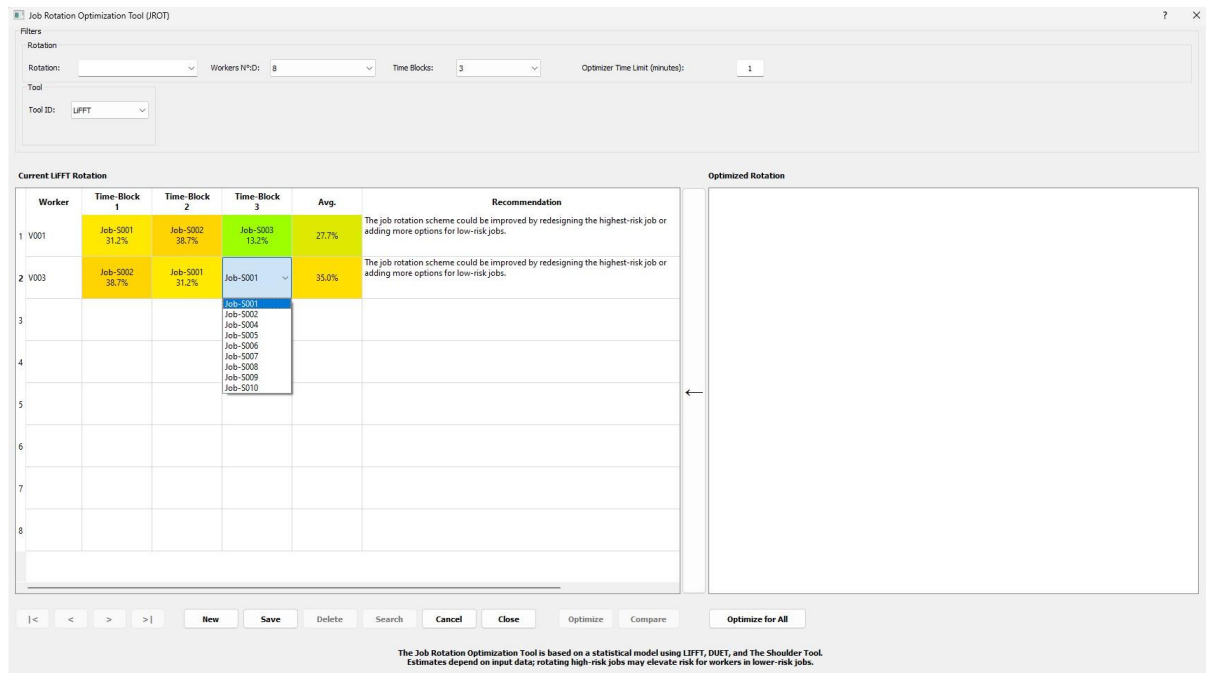

Figure 5. Example job rotation matrix where jobs are assigned to workers.
- Each job can be added **only once per time block** (see **Figure 5**).